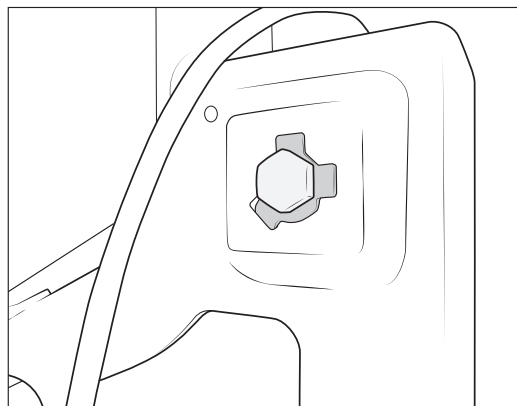

Figure 22
7. Use Anti-Seize and thread the Tire Mount Bolt with the safety lock washer through the back of the Tire Carrier (fig. 22). The pre-bent tongue will sit in the machined slot as shown. NOTE: It will make locking the safety washer easier later if you slightly bend up the ears prior installing the bolt.